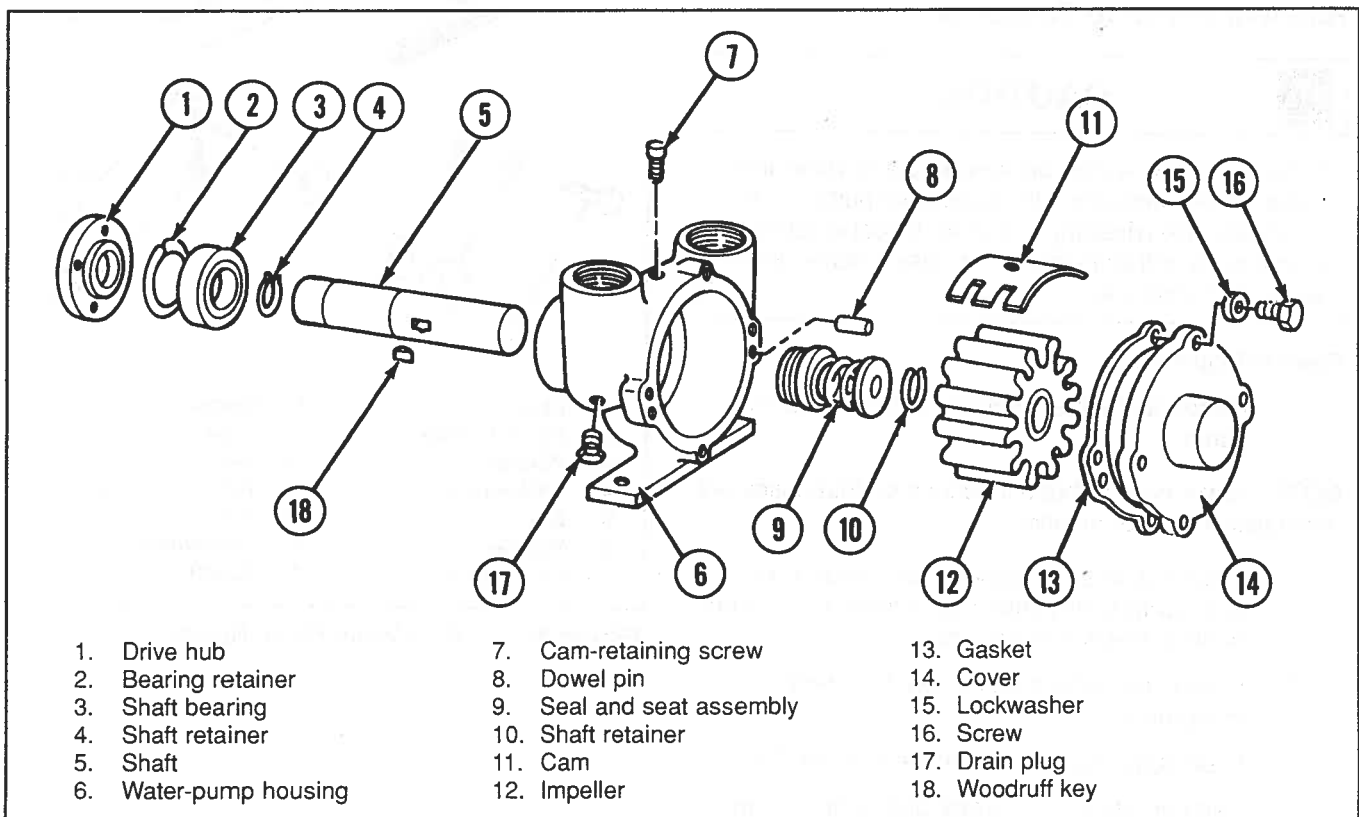

Figure 10-9. Raw-Water-Pump Assembly
Refer to Figure 10-9 during disassembly.
1. If the carbon bushing in the pump cover (14) needs replacing, it is serviced as an assembly with the pump cover (Figure 10-9).
2. Assemble a retaining ring (4) on the shaft into the second groove from the drive-shaft end. Push the ball bearing (3) over the shaft. Press on the inner race of the bearing. Push the bearing up against the snap ring.